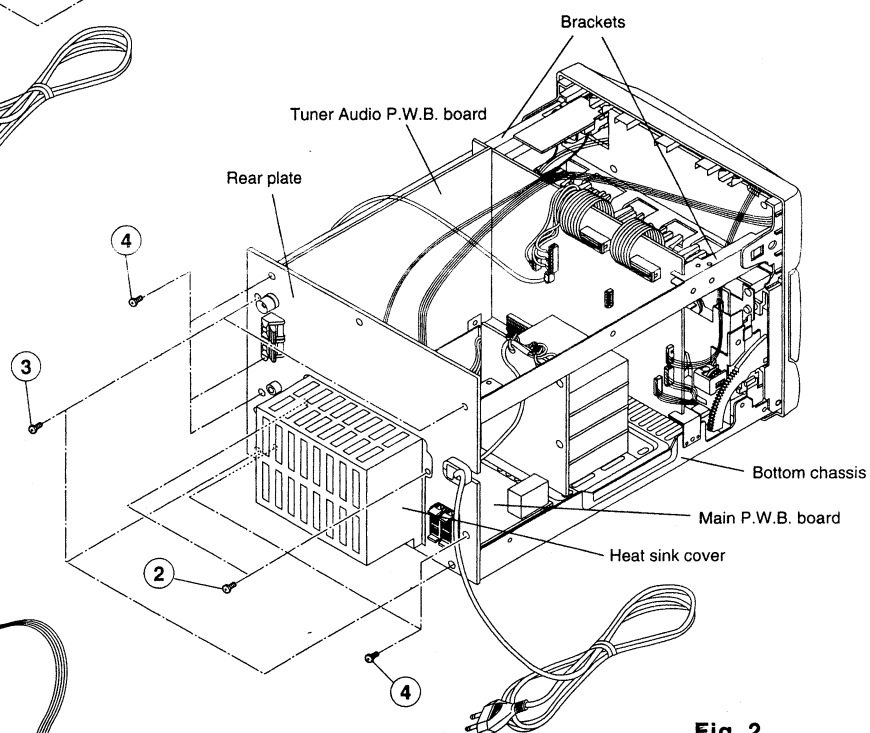

Fig. 2
(1) Remove 7 screws ①.
2. **Removal of Rear Plate (Fig. 2)**